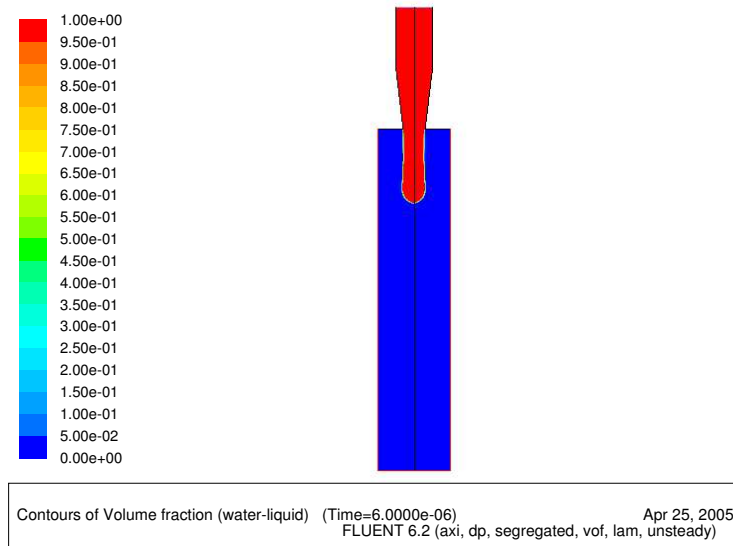

Figure 3: Contours of water-liquid Volume Fraction after 6 ms
- (a) Display filled contours of water volume fraction after six microseconds (Figure 3).